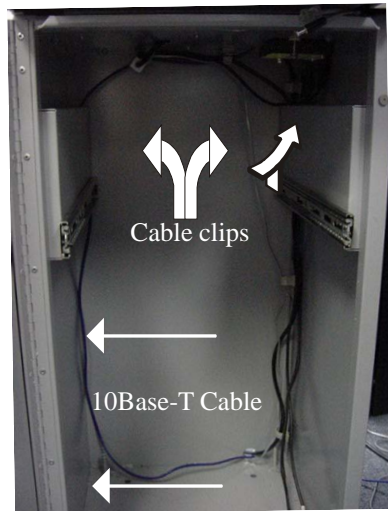

Figure 2-10
4. Route the 10Base-T cable up the left back wall of the cabinet and use the top cable clips to hold in place. Exit cable up to control panel through access hole used for A/C power cord. Cable is routed away from the AC power cable to minimize electromagnetic interference (Figure 2-10). You may have to remove the dispenser assembly for ease of cable installation.